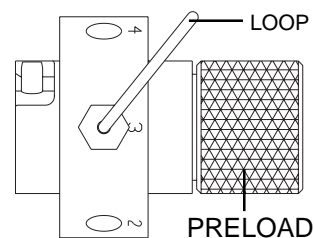

Figure 2: Rotate loop toward preload assembly
10. Let the loop rotate in the fitting so that the main length of the loop leans toward the preload assembly as in **Figure 2**. Grasp the top of the nut at the free end of the tubing and pull it into position in line with the port in which it belongs. This is easy in many 8 and 10 port applications but more difficult in the standard 6 port application, in which the loop connects ports which are exactly opposite each other.